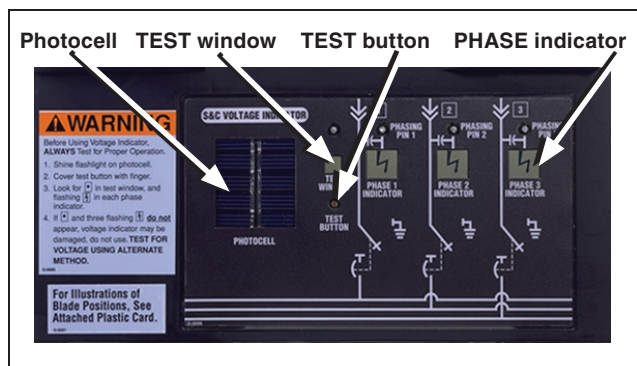

Figure 31. VOLTAGE indicator with a Test feature.
**STEP 1.** Clean the surface of the VOLTAGE indicator to remove dirt and debris. See Figure 31.